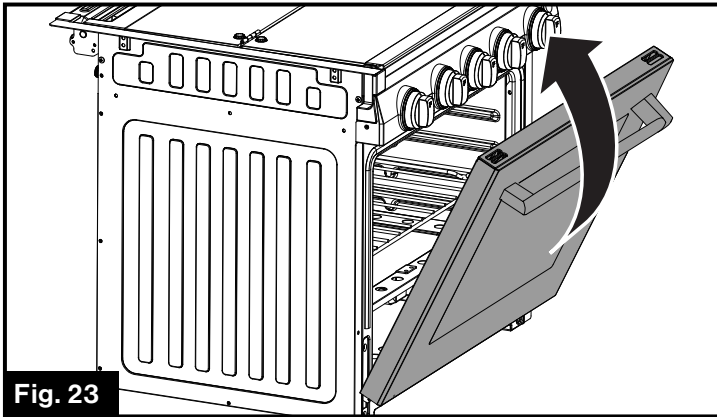

Fig. 23
- Close the door until it stops. It will be about halfway open. (Fig. 23)